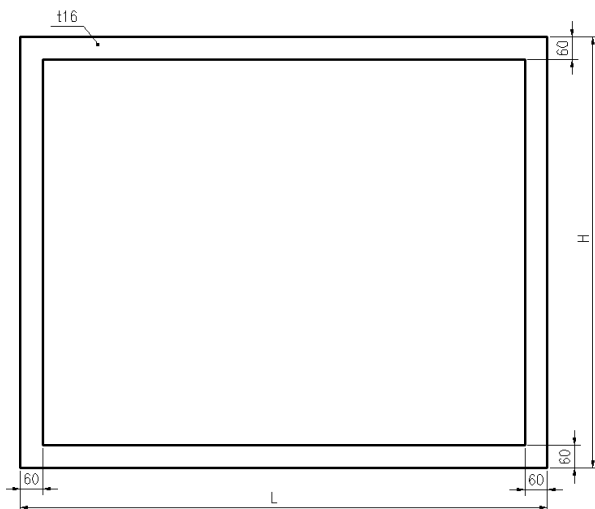

Fig. 9 Direct fixation of transformer tank and tap changer
4.1.1. Transformer tank is directly welded and fixed with tap changer compartment. (See Fig. 9):